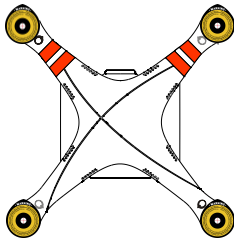

Figure 2-1
- (Figure 2-1) Remove the four warning cards from the motors after you’ve read them.